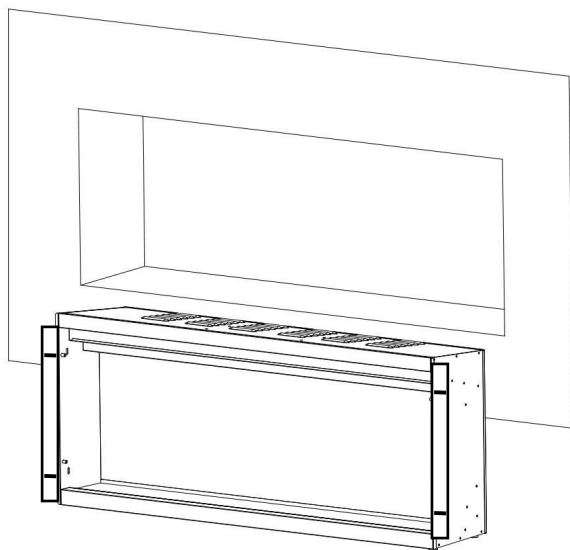
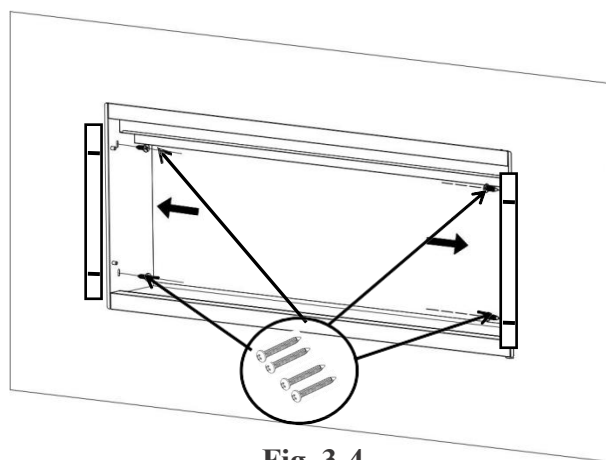

Fig. 3-3
Fig. 3-4
- D. Insert the fireplace into the rough-in frame and then secure it by installing four (4) wood screws (**A**) through the holes (Fig. 3-3, Fig 3-4).